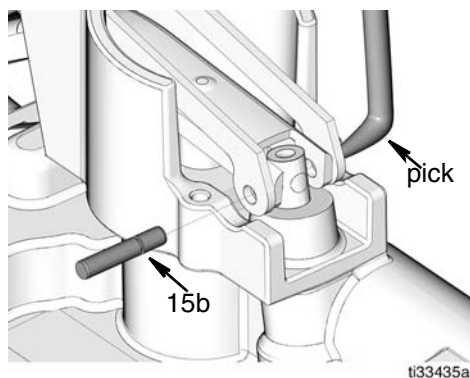

FIG. 21
5. Use a pick to push pin (15b) out (FIG. 21).